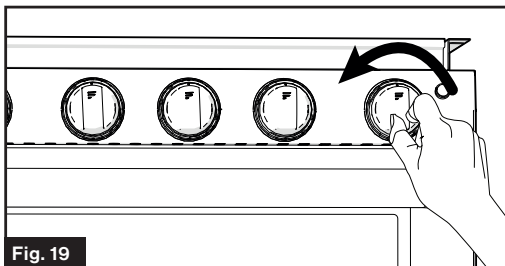

Fig. 19
2. Push and turn the oven control knob counterclockwise to the **⚡** position. (Fig. 19)